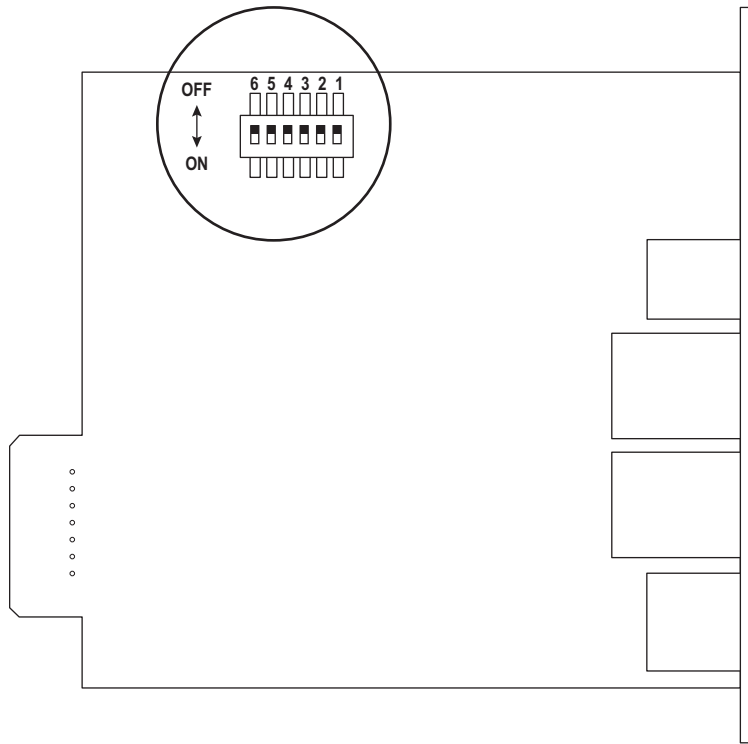

Figure 1. Verify DIP Switches are OFF
1. Verify that all six DIP switches on the card are in the OFF position (see Figure 1).